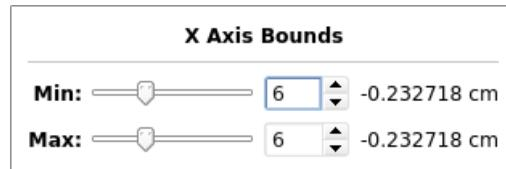

Figure 5.27: X Bounds for Solid Sensor Results
- Slide the min and max values to slice 6 as shown in Figure 5.27. The fields displayed in the reference example for the TE20 mode are located about one fourth of the way into the waveguide.